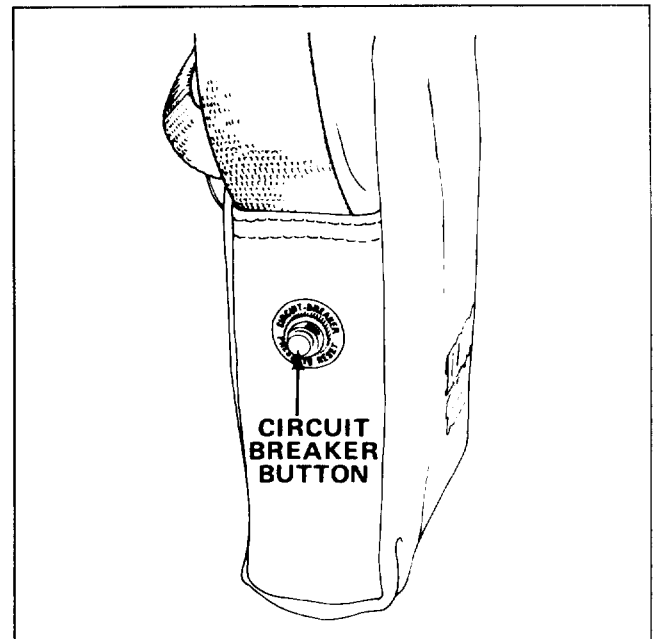

Figure 5
4. It is possible under extreme use conditions to trip the circuit breaker in the PowerPack™ (Fig. 5). If this occurs, allow the tool to rest for a